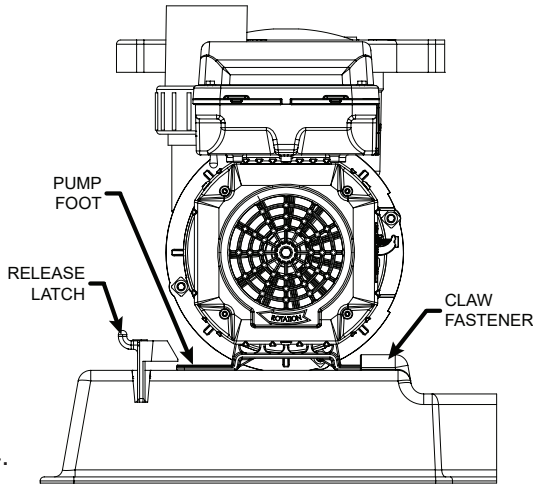
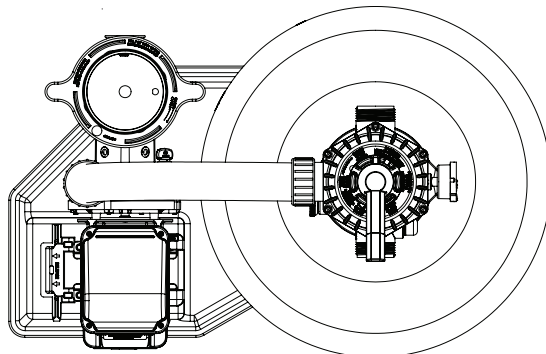

Figure 4.
Figure 5.
- G. Slide the pump foot between the claw fasteners and the release latch. See Figure 3. Seat the pump by pushing down on it until the release latch clicks into place on the pump foot. See Figure 4. The pump should be positioned as indicated in Figure 5. Install the two #20 x 1-1/4" long lag bolts through the slots in the foot of the motor, into the two holes in the base near the release latch.